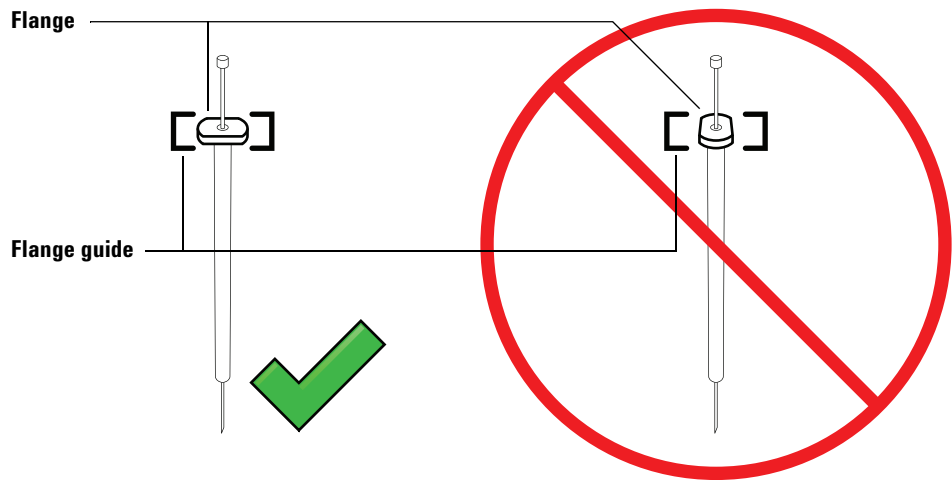

Figure 46 Syringe flange orientation
- 7 Align the syringe flange with the flange guide and press the syringe into place, keeping the needle end in the guide hole of the needle support foot. Make sure that the flat edge of the syringe flange faces out (Figure 46).